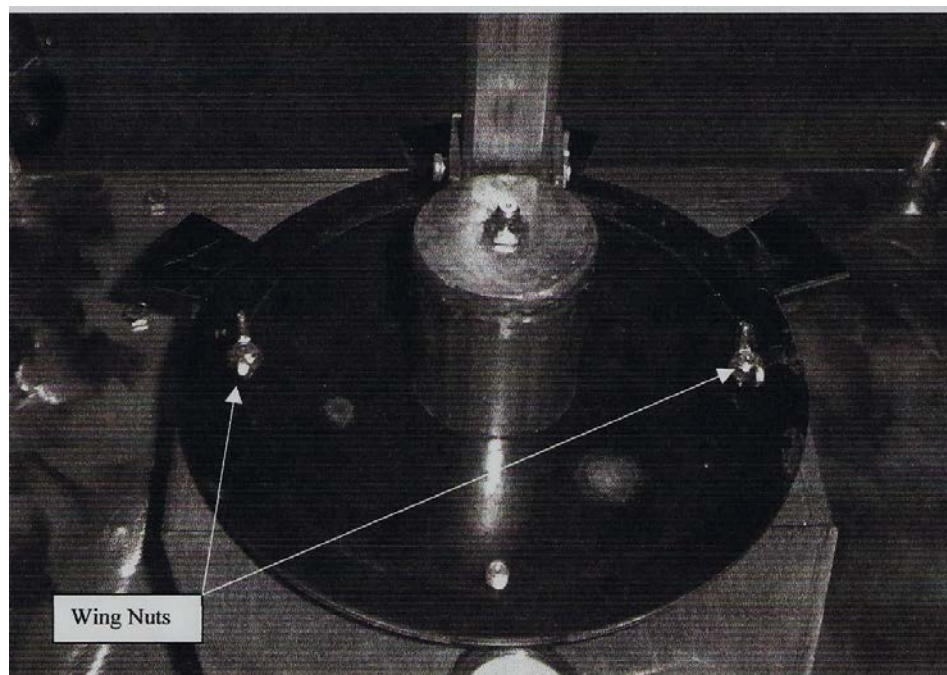

Figure 2.9 Rotational Base
2.3.2 Loosen the Wing nuts on the sense arm base plate. See Figure 2.9.